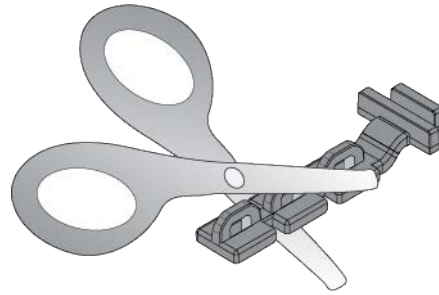

Figure 58. Shortening the USB Retainer
2. You can cut one or two sections from the USB retainer to shorten it to make it more compatible with the USB device. Refer to Figure 58.